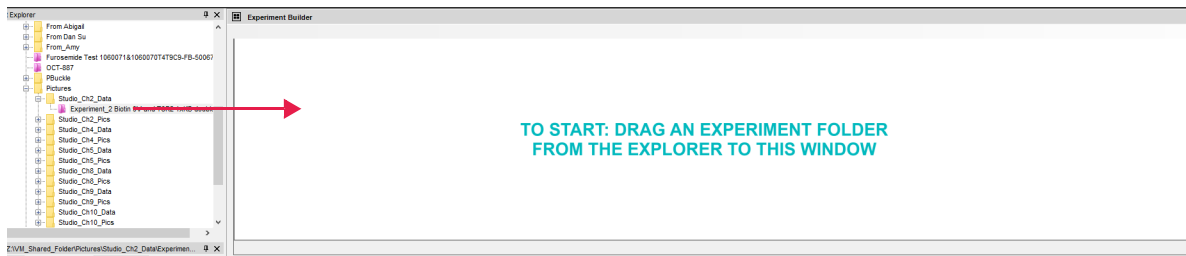

Figure 2-5: Drag Folder to the Segment Window to View
- click the data folder and drag it to the Segment window (Figure 2-5).